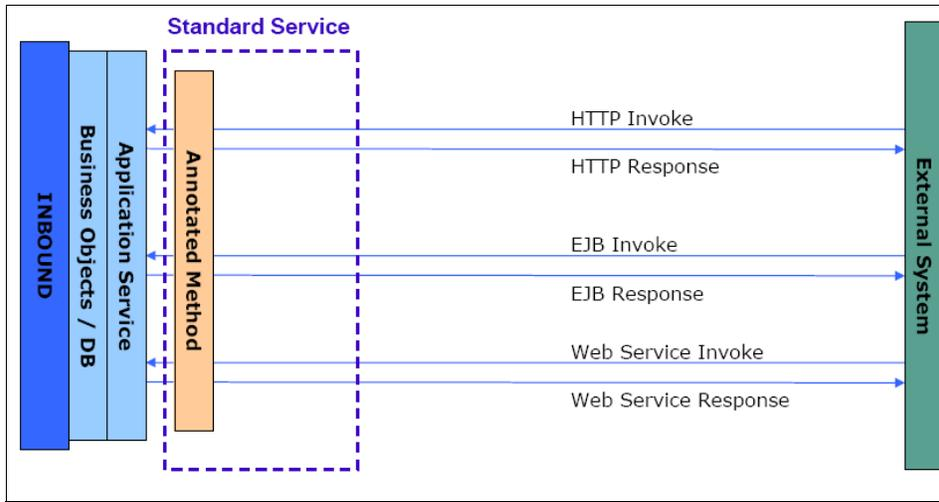

Figure 2-35 Standard Services
- New in V7.1 (Figure 2-35 on page 90).